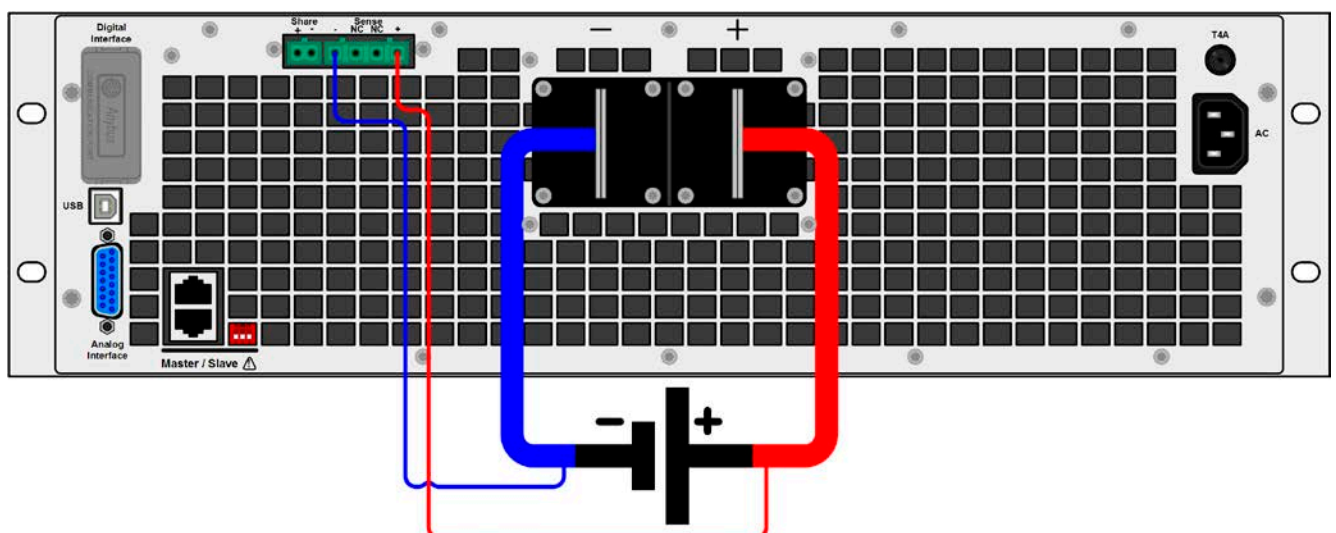

Figure 12 - Example for remote sensing connection
- *Remote sensing is only effective during constant voltage operation (CV) and for other regulation modes the sense input should be disconnected, if possible, because connecting it generally increases the oscillation tendency.*
- *Sensing cables must be connected + to + and - to - at the source, otherwise the sense input of the electronic load can be damaged. For an example see Figure 12 below.*